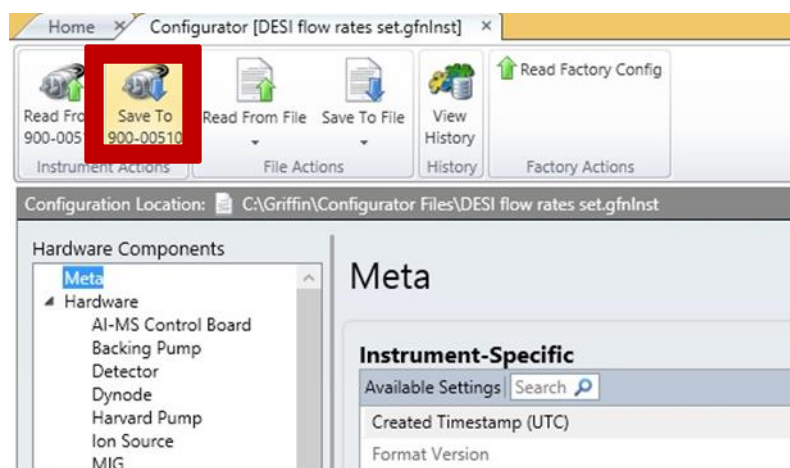

Figure 3.10 – “Save to Instrument” button
- Once the appropriate flow rate has been inputted, press the “Save to Instrument” button. After saving to the instrument, click the “Home” tab to return to the software home screen and disconnect from the instrument (Figure 3.10)